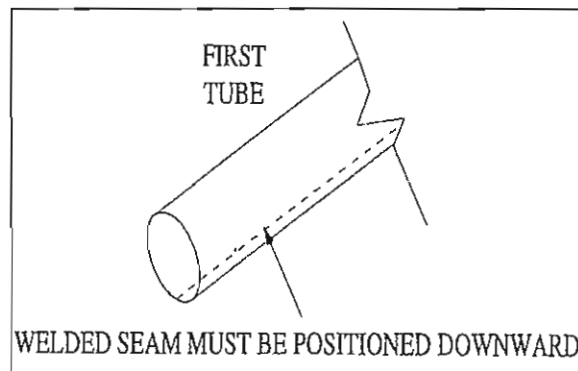
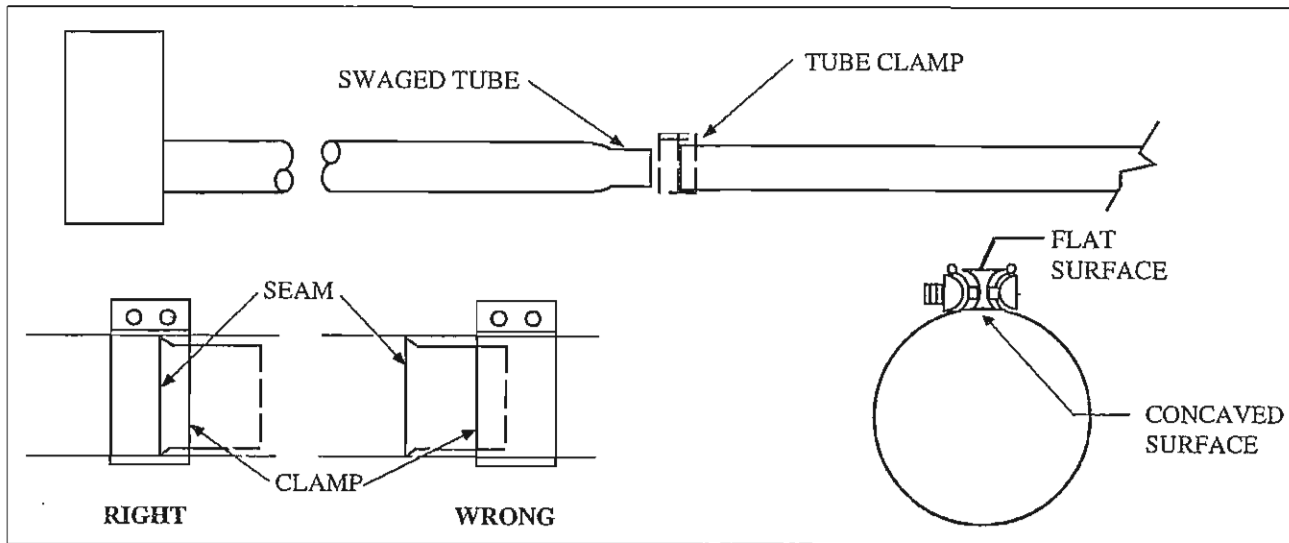

Figure 2-7
Figure 2-8
3. Mount hangers on approximately 10 ft. centers. Slide tubes through hangers with weld seam downward (see Figure 2-7) and fasten with tube clamps (see Figure 2-8). Center clamps on seams.
NOTE: The tube clamps provided with the heater are pre-assembled at the factory. If a clamp is dismantled, it is important that upon reassembly the spacer is properly inserted (see Figure 2-8). The spacer's concave surface **must** face the radiant tube. Incorrect spacer placement will result in shearing of the bolt when torqued to the recommended specifications (40-60 lb./ft).